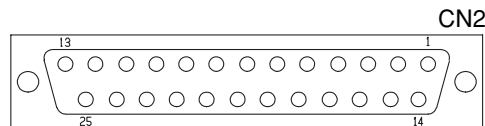

Fig.33
(8) External Input/Output Connector CN2 Pin Arrangement (Fig.33)